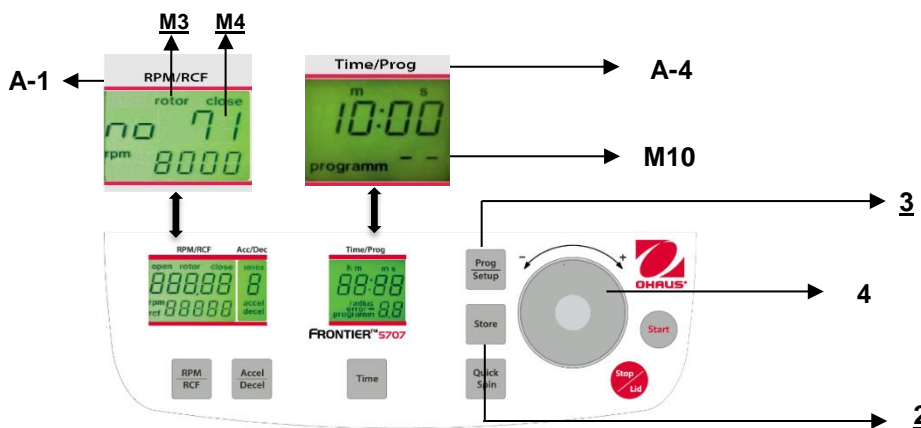

Figure. 23
To recall stored programs press the key **"Prog/Setup"** (3) (refer to figure 23) while the lid is already closed. Inside the display **"Time/Prog"** (A-4), **"programm --"**(M10) appears. The desired program number can be pre-selected with the adjusting dial (4).
To leave the program mode just press the key **"Prog/Setup"** (3) (refer to figure 23). Then inside the display **"Time/Prog"** (A-4) the word **"programm"** (M10) appears.